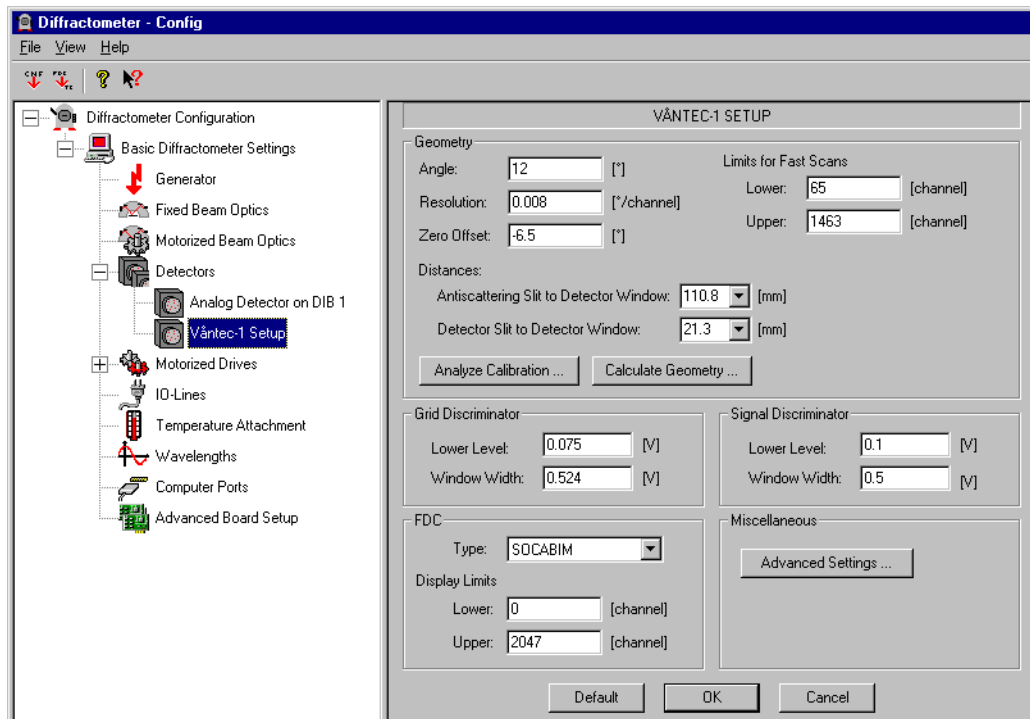

Figure 6.14 - VANTEC-1 Setup menu
2. Select **VANTEC-1 Setup** (see Figure 6.14).